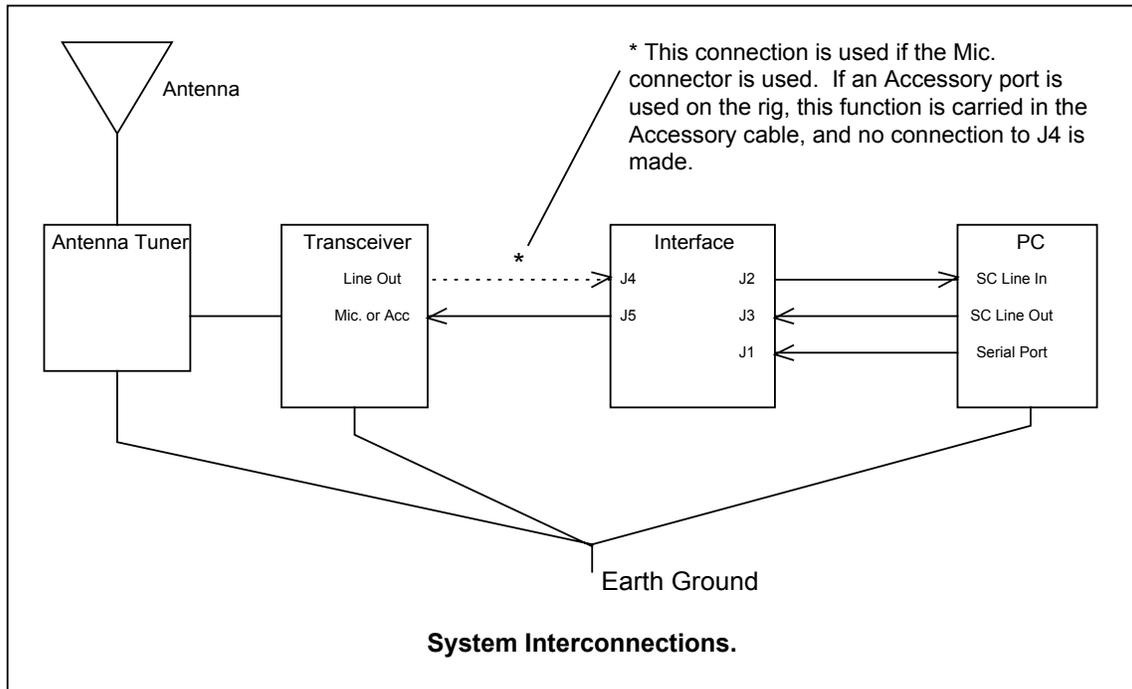

Figure 7.1 System Interconnections
7.2 Hook Up Your Rig - At this time, be sure that you have good ground connections to your PC the SSB rig and the tuner. Now, hook up the rig, interface and PC as shown in figure 7.1 below. Put the PTT control switch on the interface to the “Off” (center) position for initial tests.